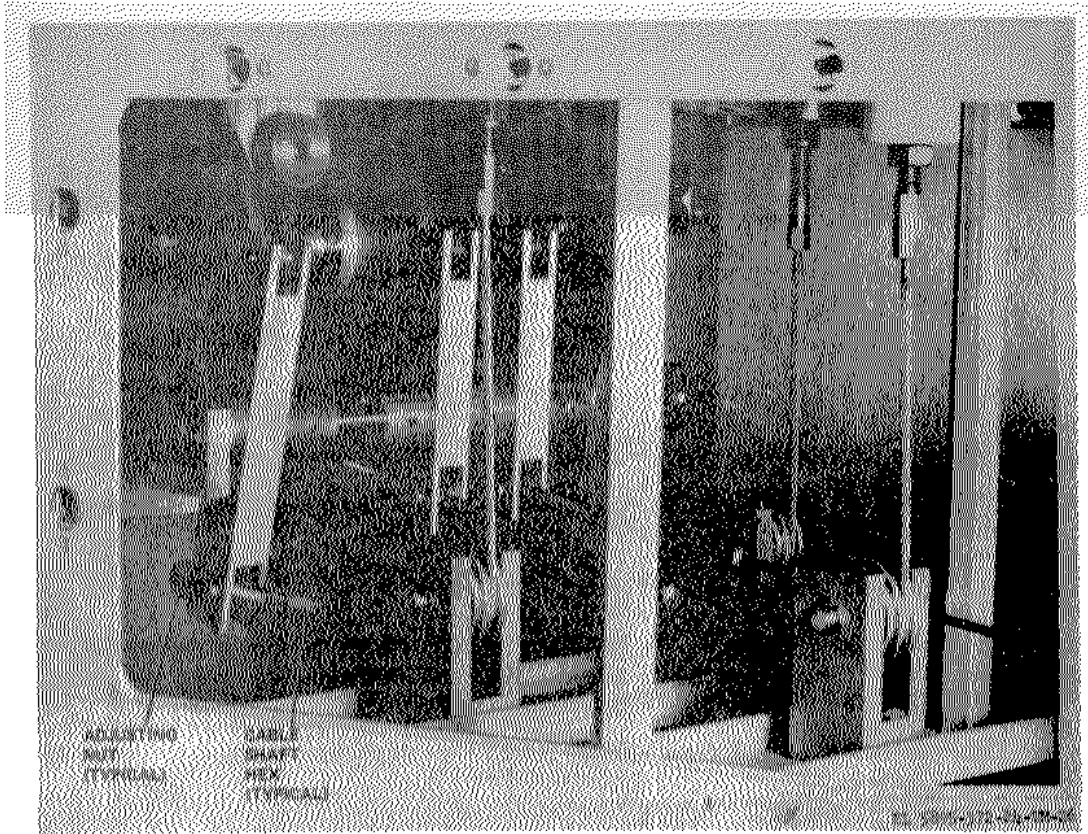

Figure 4-11. Soft mounted coupler (1A5) capacitor adjustment.
(9) If value read is incorrect, grasp the capacitor cable shaft hex (at linkage end of cable) with a wrench and turn adjusting nut (using another wrench) until value in step (8) above is obtained (fig. 4-11).